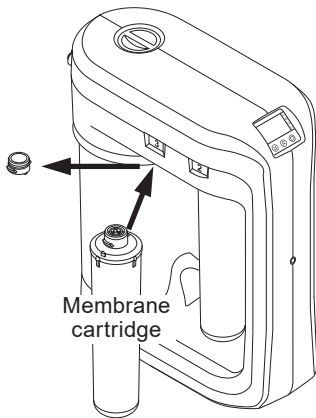

Fig. 12
- Remove the service plug from the slot of the reverse osmosis membrane unit and replace it with the membrane cartridge as shown in Fig. 12.